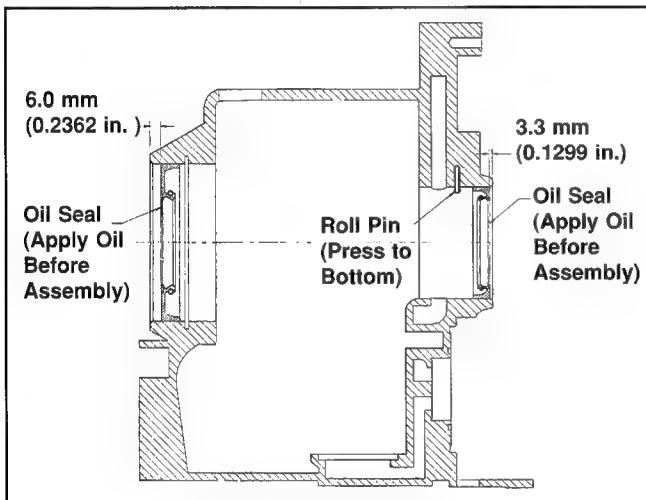

Figure 11-5. Front Oil Seal Depth.
6. Grease lips of front oil seal and use a seal driver to install seal to depth shown in Figure 11-5.